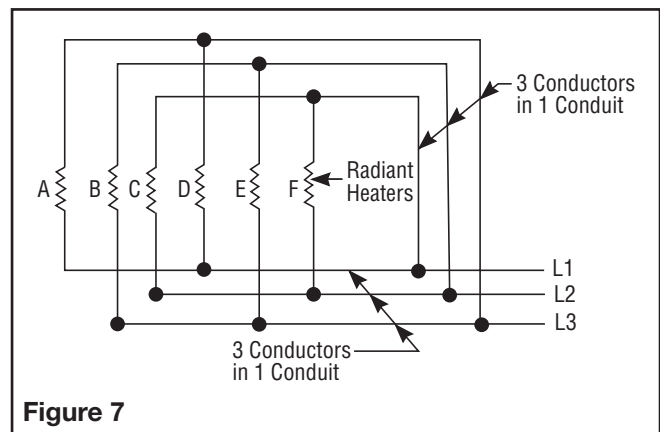

Figure 7
9. DELTA CONNECTIONS — When heaters occur in multiples of three, they may be connected to, and balanced across, three-phase lines. The most commonly used connection is the delta connection illustrated in Figure 7.